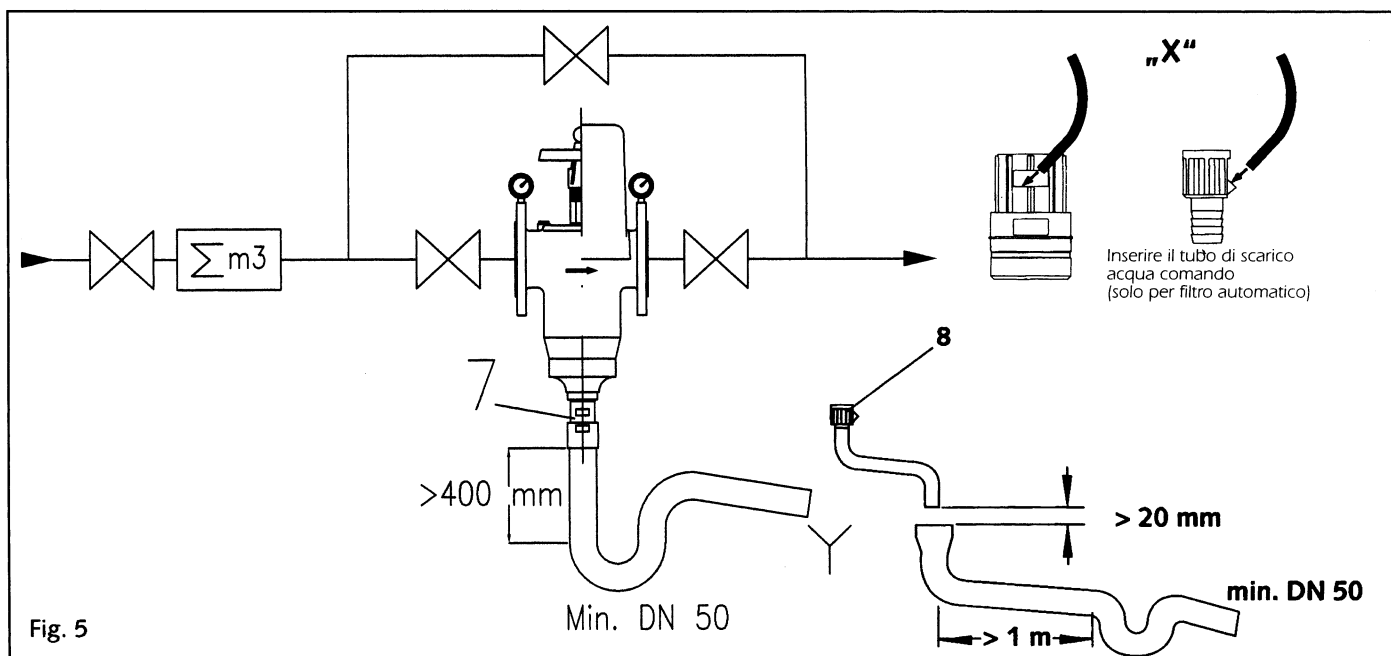

Fig. 5
(see fig. 5)
Install the backwash filter horizontally in the cold water line in the flow direction. (Observe the flow direction arrow on the filter casing). Assemble pressure gauges (2). Screw on the waste water connection, either for pipe or for hose. Connect the drain line (see fig. 5 for examples).